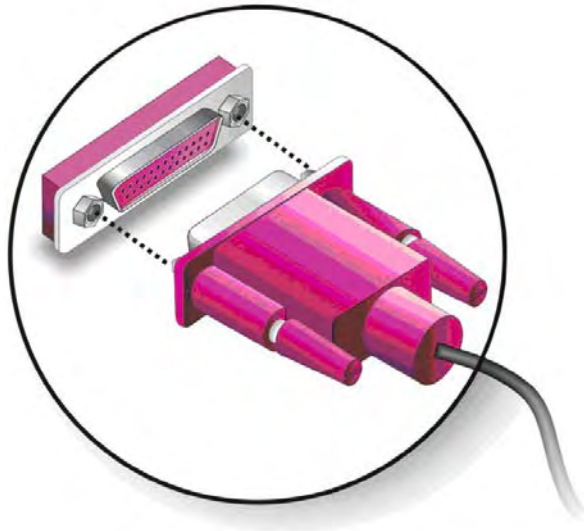

Figure 5-15: Connect the LPT Device
- Step 5:** **Connect LPT device.** Once the LPT interface connector is connected to the chassis, the LPT device can be connected to the LPT interface connector. See **Figure 5-15**